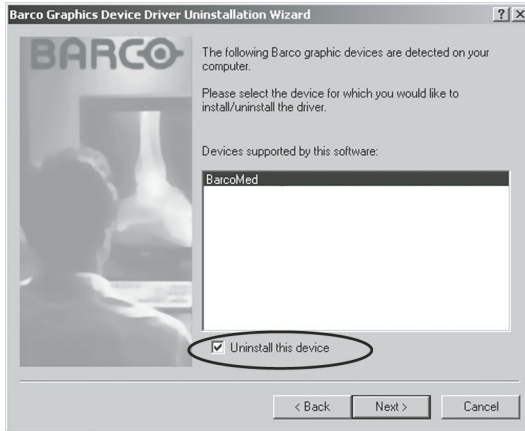

Figure 46
5. On the next screen (see figure 46 on page 108), **check** the checkbox next to "Uninstall this device" and click **"Next"** to continue.